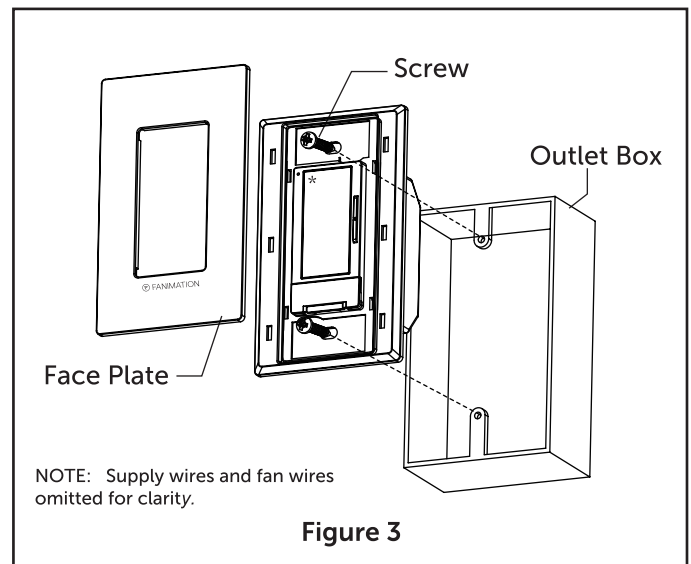

Figure 3
- 3. Attach wall control unit to outlet box using the two screws provided. Then, attach face plate to the wall control. (Figure 3)